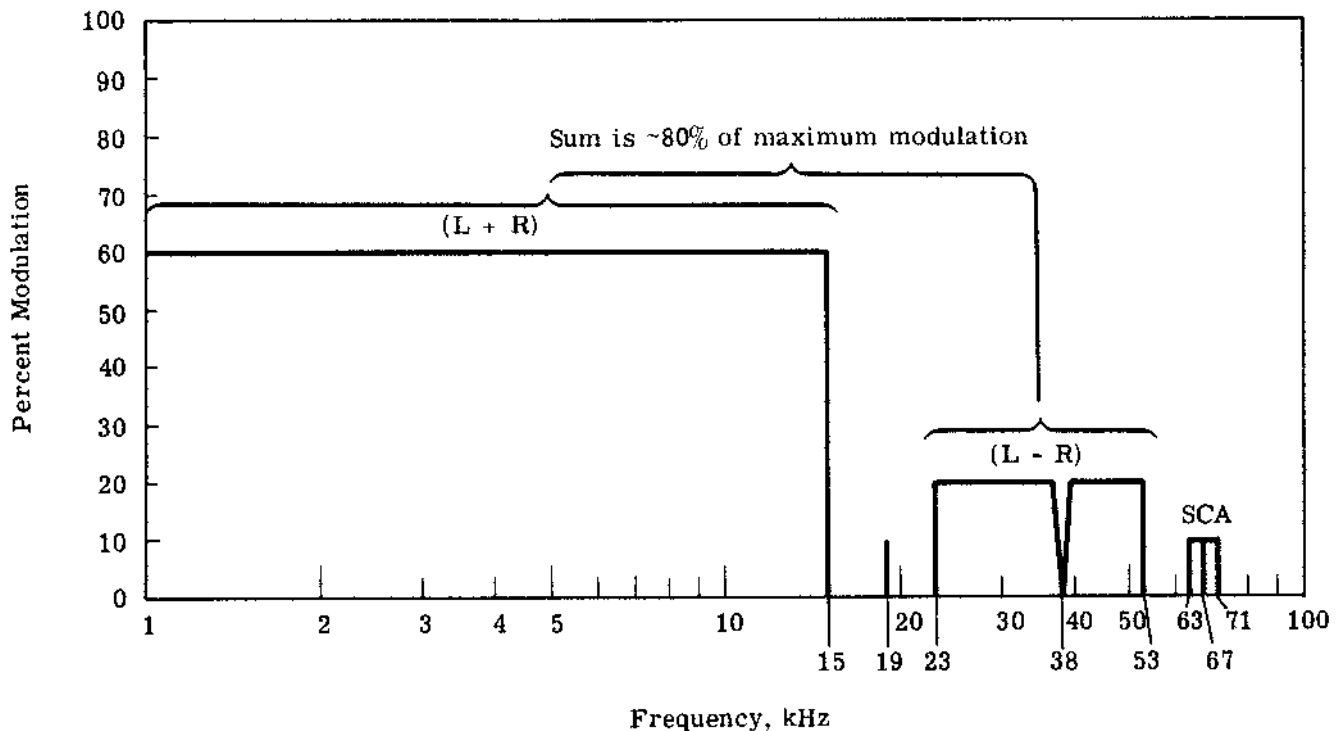

Fig. 1 — Frequency spectrum of a typical FM stereo signal with SCA
A fully utilized FM stereo broadcast channel consists of four basic elements: (1) the monophonic (left plus right) audio information, (2) the stereo pilot tone, (3) the decoding information required for stereo reception, and (4) the SCA (subsidiary communications authorization) signal. A frequency spectrum of a typical format is presented in Fig. 1. The monophonic (L + R) information to be transmitted is generally restricted to a top-end frequency of less than 19 kHz (generally 15 to 17 kHz). This restriction is imposed on a stereo broadcast in order to avoid interference with the 19-kHz (± 2 Hz) stereo indicator pilot tone which is transmitted at a volume or percent modulation level between 8 and 10 percent of the total signal. Ultrason-